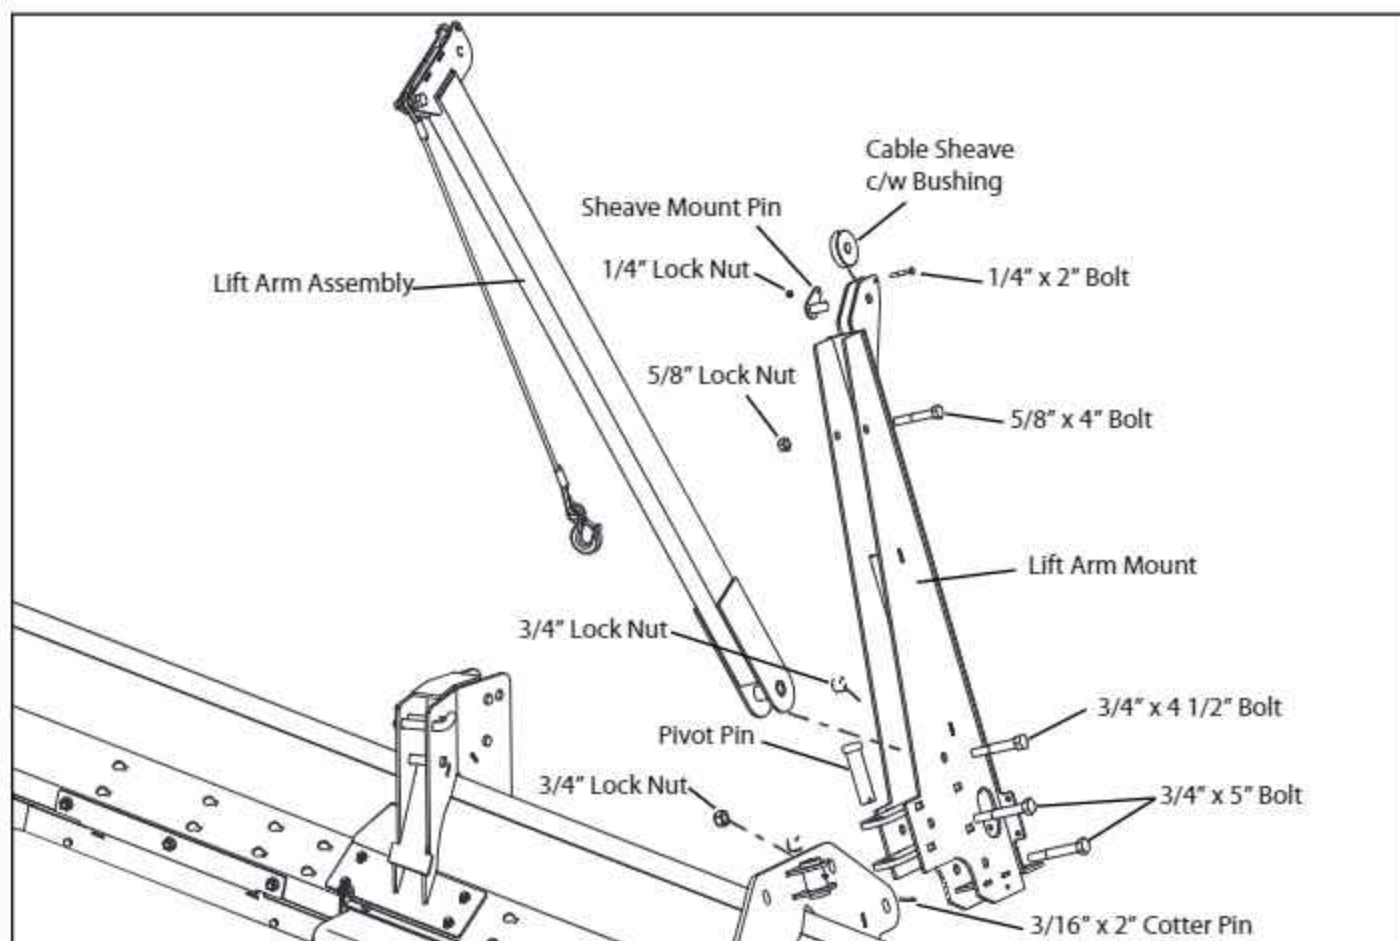

**FIG. 3-66. Lift Arm and Transport Mount Installation**
1. Mount the Lift Arm Base to the tube where shown in Fig. 3-66 using eight 3/8" x 1" carriage bolts and serrated flange nuts. Thread the grease zerk in the pivot bushing.